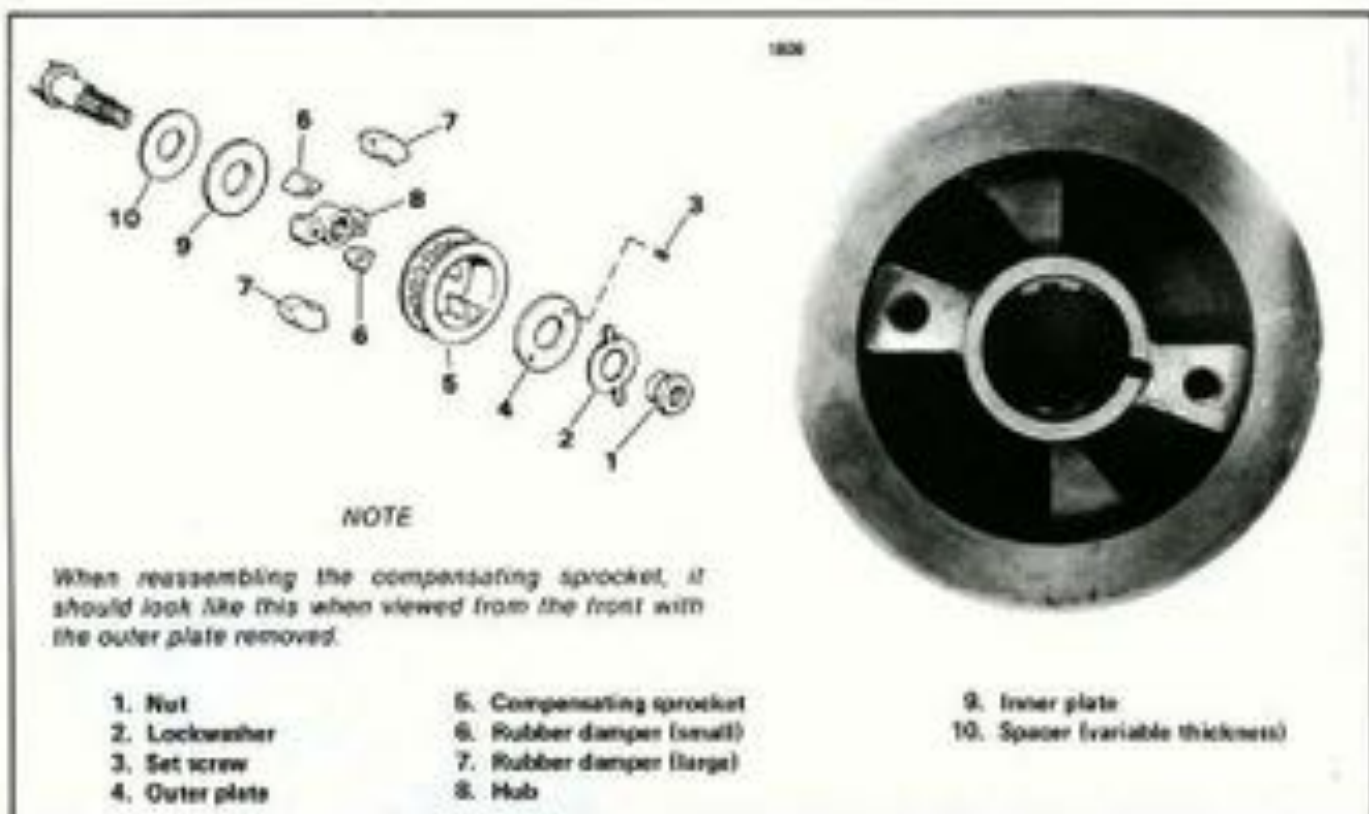

Figure 6-14. Belt Drive Compensating Sprocket
**Disassembly/Assembly (Figure 6-14)**
2. Remove the set screw (3). Push the outer plate (4), rubber dampers (6, 7), hub (8) and inner plate (9) out of the compensating sprocket (5).
4. Assemble the compensating sprocket parts as shown in Figure 6-14.